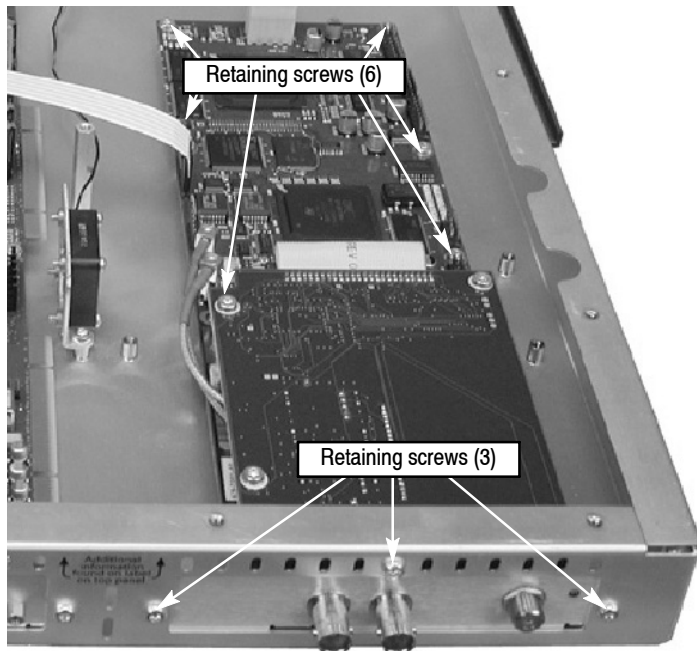

Figure 20: Retaining screw locations for QAM (Annex B, new version), 8PSK, 8VSB, and COFDM interface boards
- b. For QAM (Annex B, new version), 8PSK, 8VSB, and COFDM interface boards, remove the six retaining screws from the board and remove the three retaining screws from the rear panel as shown in Figure 20.
- b. For QAM (Annex B, new version), 8PSK, 8VSB, and COFDM interface boards, install the six retaining screws in the board and install the three retaining screws in the rear panel as shown in Figure 20.